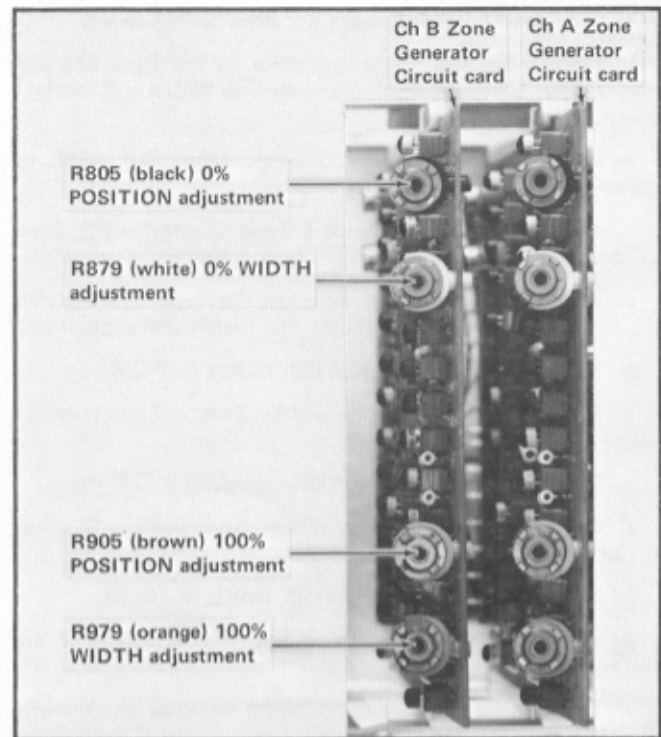

Fig. 7-9. Adjustment locations for steps 28-31.
- f. ADJUST—R805 (black), the 0% Position adjustment on the Ch A Zone Generator circuit card (Fig. 7-9), so that the intensified zone starts at the 1-cm vertical graticule line.
- j. ADJUST—R905 (brown), the 100% Position adjustment on the Ch A Zone Generator circuit card (Fig. 7-9) so that the intensified zone starts at the 1-cm vertical graticule line.
- c. ADJUST—R979 (orange), Ch B Zone Generator 100% Zone Width adjustment (Fig. 7-9) for 0.3 cm intensified zone width.
- n. ADJUST—R879 (white), Ch B Zone Generator 0% Zone Width adjustment (Fig. 7-9) for 0.3 cm intensified zone width.